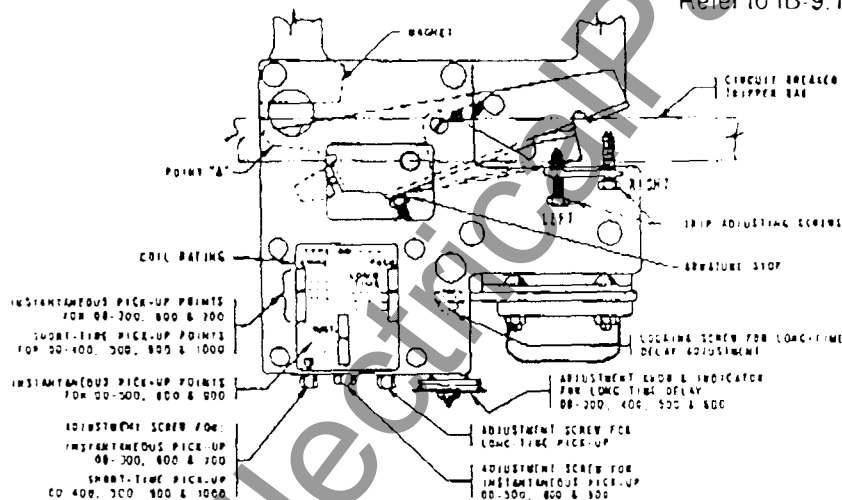

Fig. 10 — Overload Device Adjustments
Long Time Delay Band Adjustment (Figure 10)
Pick-Up Setting Adjustments (Figure 10)
a. (See Figure 10.) Back out on the two trip adjusting screws until the screws are engaging the nut by approximately two turns.